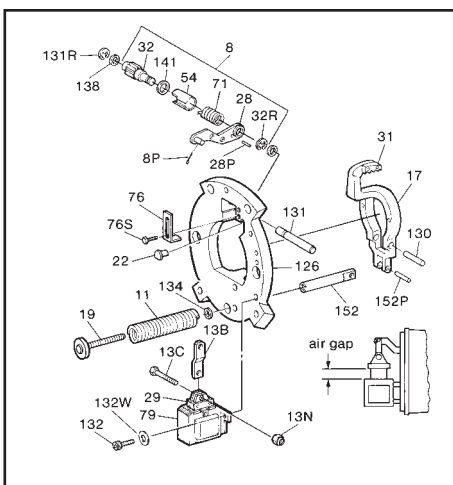

Figure 6
G. Reassemble friction disc (be sure friction discs slide freely), spring (if vertical), stationary discs, and pressure plate in correct sequence and position. All parts must slide freely. The universal mounting pressure plate presently used has three tapered reliefs on outboard face. However, some older brakes used a pressure plate with a single tapered relief marked top, which must be installed with relief facing manual release rod (146).
H. Mount support plate assembly, torque screws to 50 in-lbs in endplate. Conical spring washer installed under the screw head. Flat washer used under the conical spring washer only with aluminum support plate. Be sure that assembly is mounted with the solenoid in a vertical position (plunger above frame) as shown when brake is horizontal. If release rod (146) is not in manual release position and has allowed the mechanism to overadjust, it will have to be reset before mounting support plate. In this case, the lever arm (17) throat will be near, or touching, the pinion (32) teeth. Refer to Figure 6 and *Self-Adjust Maintenance*. Loosen pressure spring cap screw (19) until pressure spring (11) is free, mount support plate assembly to endplate and retighten spring cap screw until snug. Do not overtighten! Torque to a maximum of 8 ft-lbs.
2. Continue with Steps B through D and Steps G through J. Be sure to reconnect coil leads before replacing housing (J).
C. Self-adjust maintenance (See Figure 6)